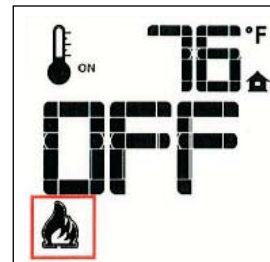

Figure 57. Burner OFF.
- With the system ON, and the burner flame level at maximum, press the Down Arrow Key once to reduce the flame height by one step. Each time the Down Key is pressed, the flame will step down until the burner is finally turned off. Fig. 57.